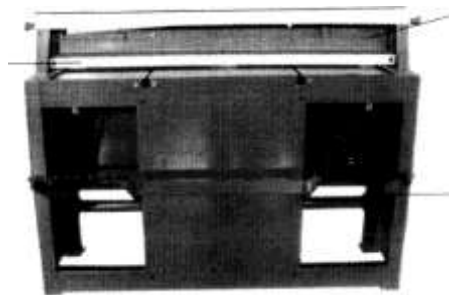

FIGURE 1.5
- 1.5 Below is a picture of a cutting machine, FIGURE 1.5: